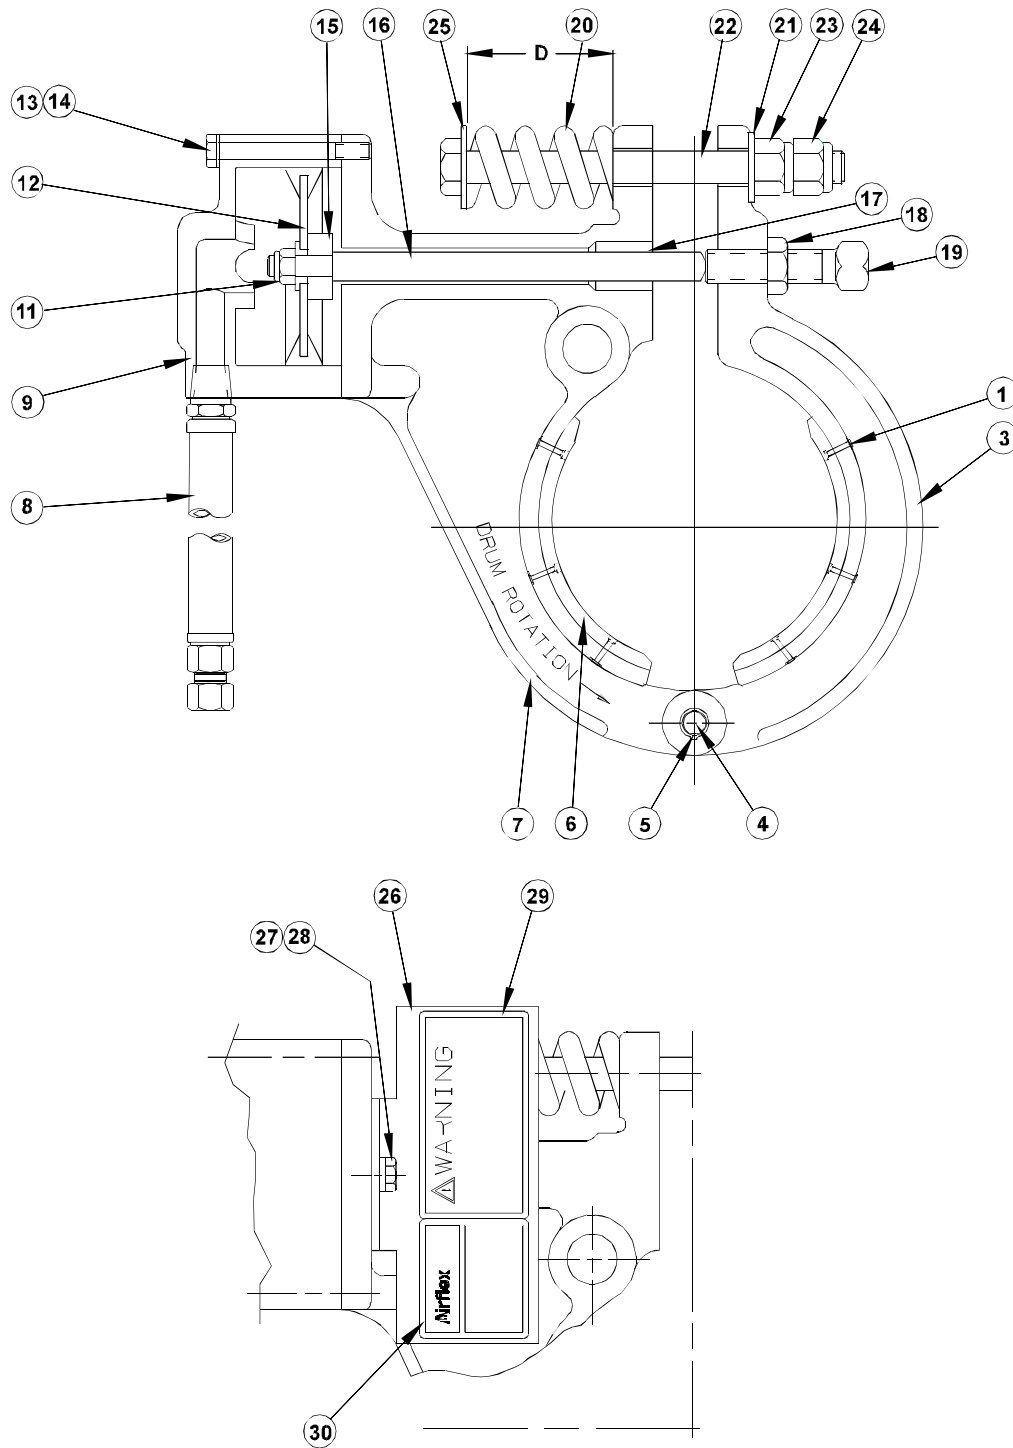

Figure 1
Throughout this manual a number given in () refers to the parts identified in the Figures 1 through 3 and Tables 7 and 8.
- 1.2.1 Refer to the brake drawings, Figures 1 through 3. The two brake shoes (3) and (7) are hinged together by a pin (4). When no air pressure is applied to the cylinder (9), the spring (20) applies the force that clamps the brake shoes to the brake drum. The force exerted by the spring and drum rotation determines the torque capability of the brake. The “braking” reaction is against the reaction pin, which is retained in the reaction hole in brake shoe (7). The pin is mounted to a bracket which is fastened to the machine frame. The reaction pin also supports the brake assembly when the brake is not engaged.
Before performing any work, read this manual and study the brake drawings, Figure 1 through 3. Do not risk injury - follow the instructions!